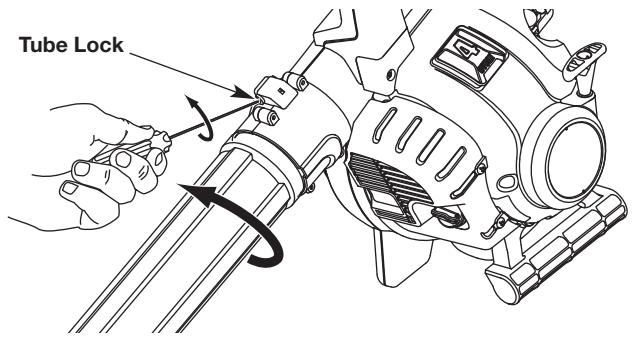

Fig. 1
1. Insert a flat-head screwdriver into the tube lock. Turn the screwdriver counterclockwise 1/4 turn and hold it in place (Fig. 1).
2. Twist the blower tube counterclockwise until it unlocks from the blower outlet (Fig. 1).